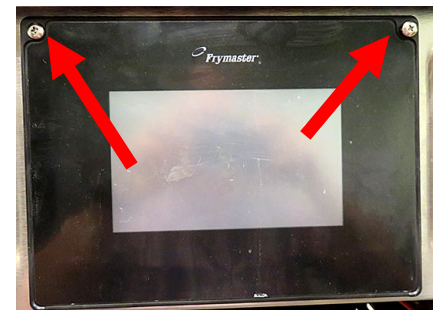

Figure 10
13. Remove the two Phillips head screws from the upper left and right corners of the far-left controller (see Figure 10).